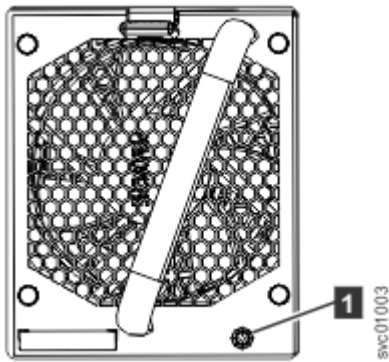

Figure 109. Fan module LED
1. Identify the fan module to be replaced. When lit, the amber LED on the front of the fan module (**1** in Figure 109 on page 98) identifies a fault.